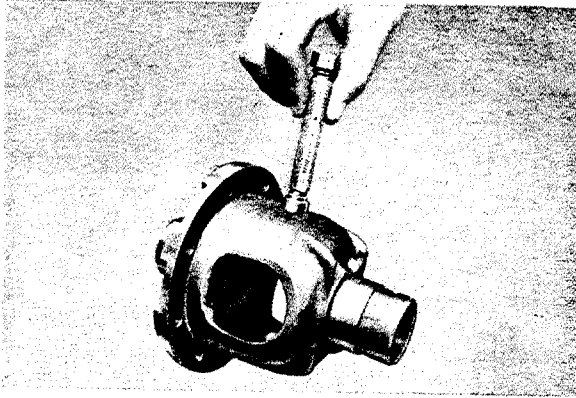

Fig. H 3/22
22. Check bores for differential bevel gear bolt with a gauge plug (19 H 7 = 19.000–19.021 = 0.7480–0.7489"). See Fig. H 3/22. If the bolt is not seated tightly enough or if the